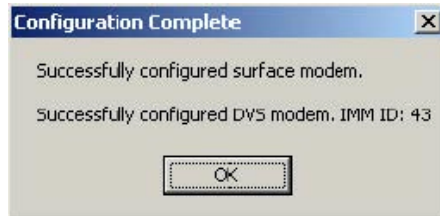

Figure 5. Configuration Complete Message Box
12. Press the **Configure Modems** button to start the configuration process. The dialog will update with a status bar and information on the configuration steps being run. The configuration process will take a few minutes to complete. Once the process is completed, a message box will appear letting you know that the selected configuration(s) are completed (See Figure 5 below).